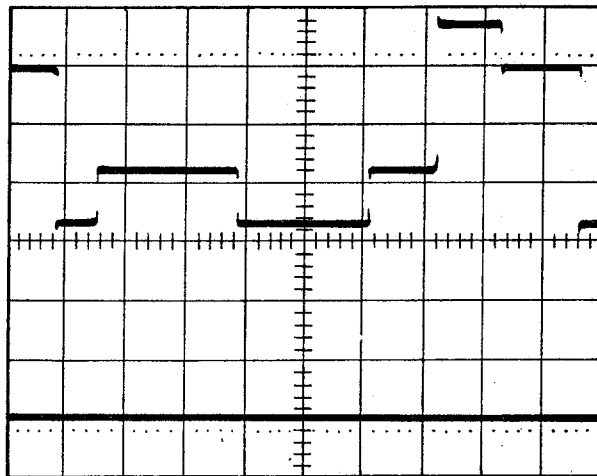

Fig. VIII-2. Instantaneous voltage measurement using the line written by channel  $Y_B$  as a reference marker
- Use the X POSITION control to align the instantaneous voltage point which has to be measured, with the vertical centre-line of the graticule, as shown in Fig. VIII-2.